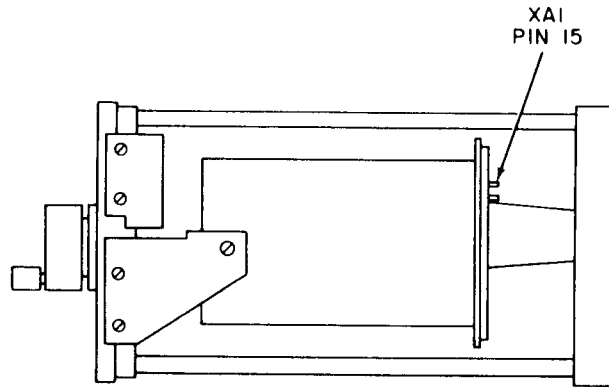
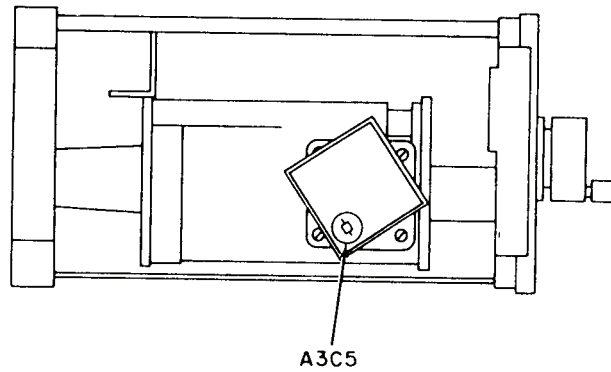

Figure 1. Frequency converter - top view.
Figure 2. Frequency converter - left side view.
- (1) Remove TI from frequency counter and reconnect, using extension cable (B3).
- (2) Repeat a (1) above.
- (3) Adjust signal generator for an output of 472 MHz at 100 mV.
- (4) Connect multimeter to XA1pin 15 of connector (fig. 1).
- (5) Turn frequency dial to 470 and tune for maximum indication on multimeter.
- (6) Adjust signal generator output voltage until TI level indicator meter indicates at red-green border
- (7) Adjust A3C5 (fig. 2) for maximum indication on multimeter (R).